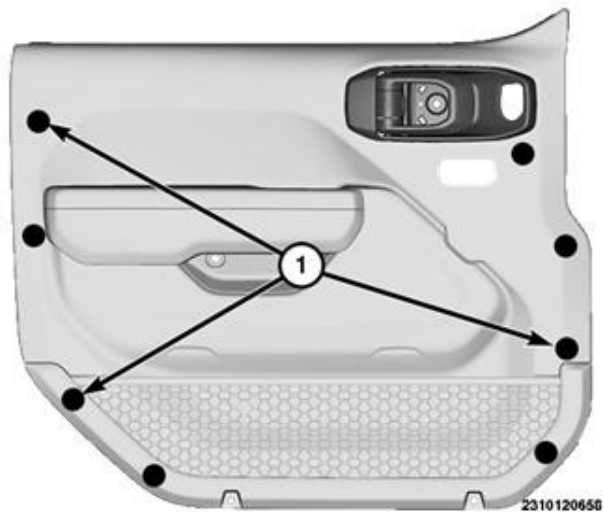

Figure 4 – Push Pin Fasteners
- (1) - Door Trim Panel Screws
- (2) - Arm Rest Bolts
8. Using special tool Remover, Trim C-4829A or equivalent, separate the push pin fasteners (1) (Figure 4).